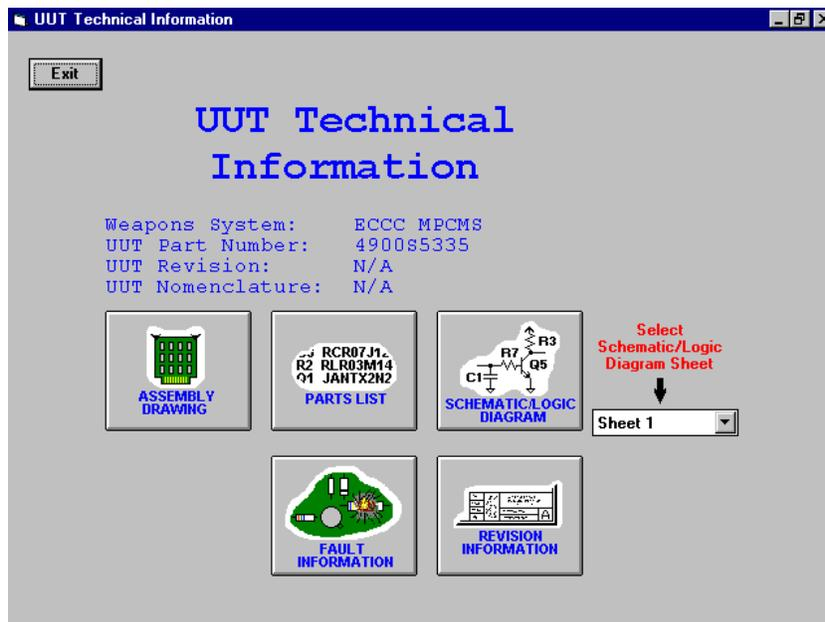

Figure 5. UUT Technical Information Screen
3.1.2 To display an item found in UUT Technical Information, click on the Icon for that item. (See Figure 5, UUT Technical Information, below)